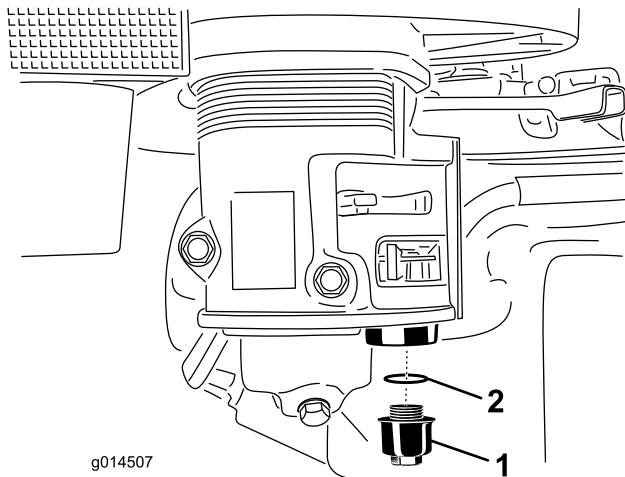

Figure 17
2. Unscrew the sediment cup. Make sure not to misplace the o-ring (Figure 17).